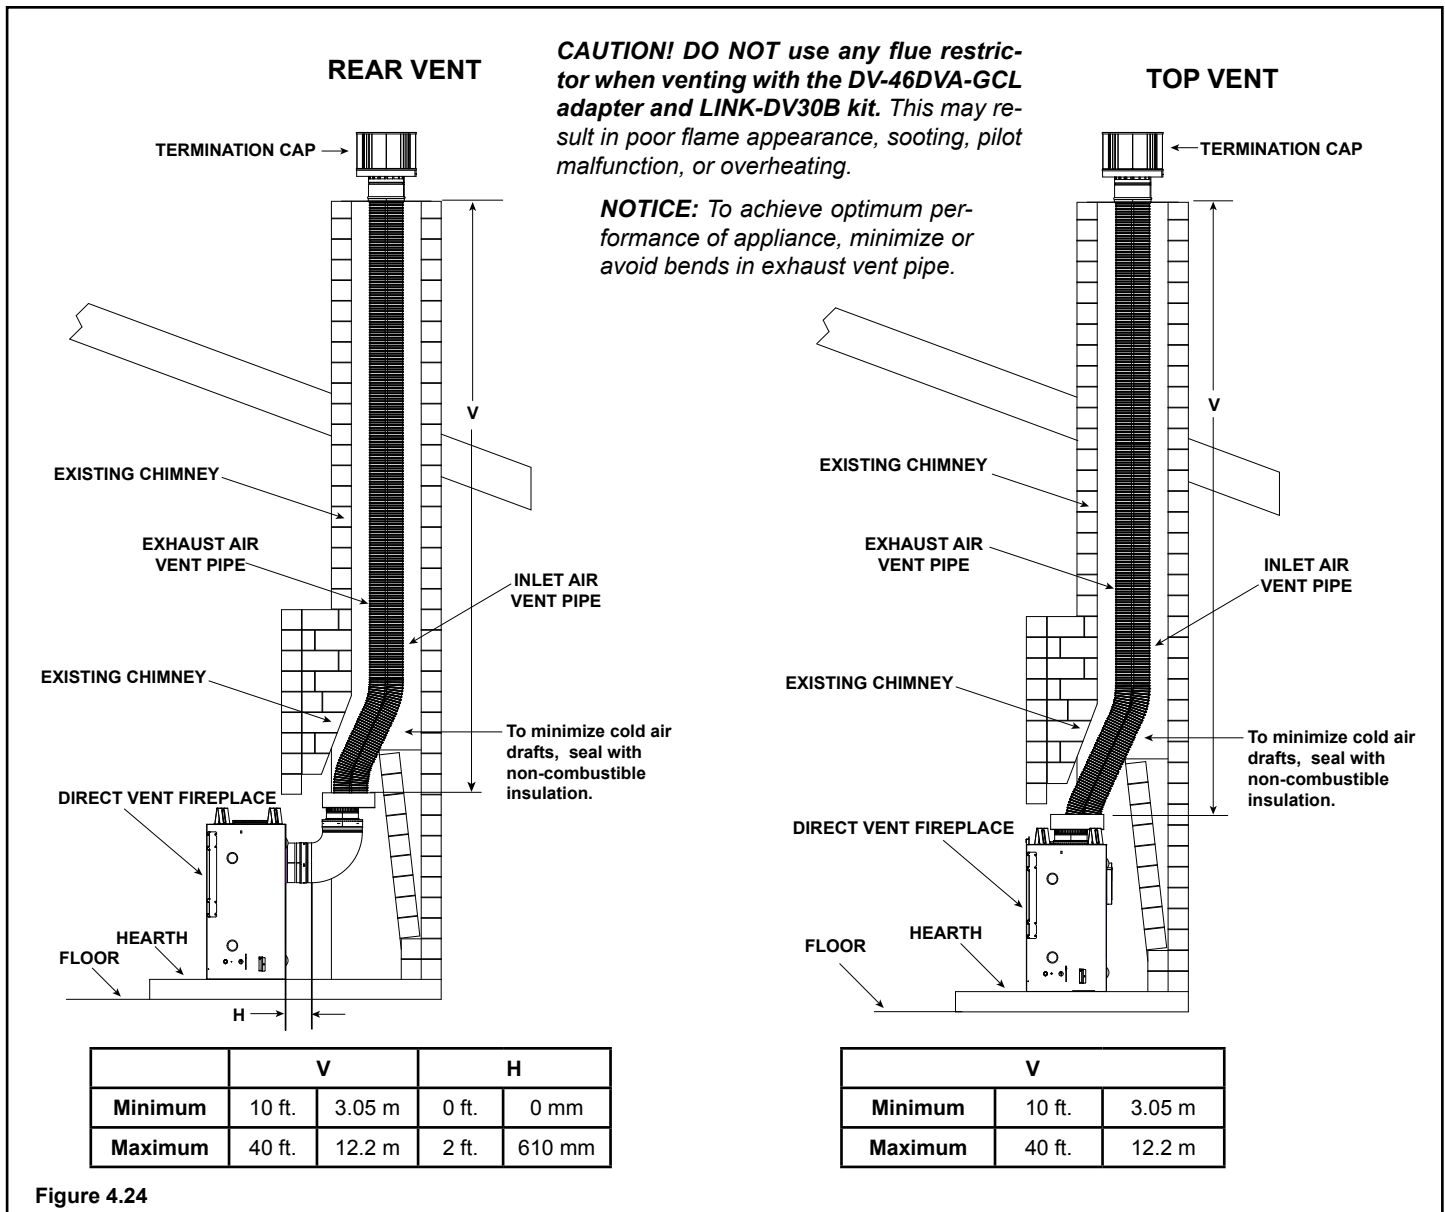

Figure 4.24
**SLP Collar:** Install the DV-46DVA-GCL adapter to the appliance starting collar with 3-1/2 in. self-tapping screws. See Figure 4.24.
- Remove the rear seal cap and insulation if equipped. Connect the DVP-2SL adapter to the vertically positioned elbow. Follow installation instructions included with DVP-2SL kit. Secure DV-46DVA-GCL adapter to DVP-2SL with 3-1/2 in. self-tapping screws. See Figure 4.24.